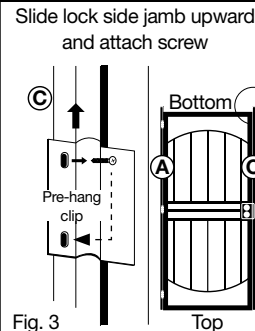

Fig. 3
Fig. 3 - From lock side of the door, remove the Phillips-head screw from each pre-hang clip (DO NOT REMOVE PLASTIC CLIP FROM DOOR). Slide lock side Z-bar jamb (C) toward what is now the bottom of the door to the next pre-drilled hole below; replace the Phillips-head screws in each of the two pre-hang clips but do not over tighten.